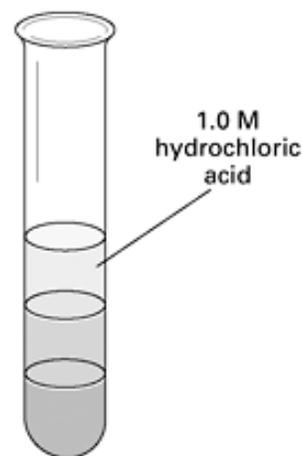

Figure 3
6. Put the test tube into the water bath you prepared in **Step 2**. Heat it until no more changes occur. The products of this reaction are copper (II) oxide and water. Record the changes that occur in the test tube in the Data Table. Describe any precipitate that is formed. Describe the supernate (liquid).
7. Remove the test tube from the hot-water bath. Turn off the burner. Cool the test tube and its contents for 2 min in room-temperature water. Add the 1.0 M hydrochloric acid (HCl) to the third mark, as shown in **Figure 3**.